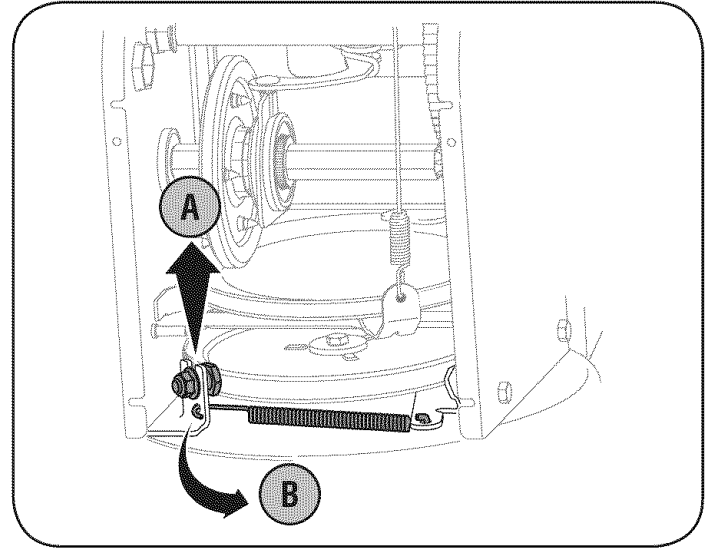

Figure 24
- Remove the belt as follows. Refer to Figure 24.